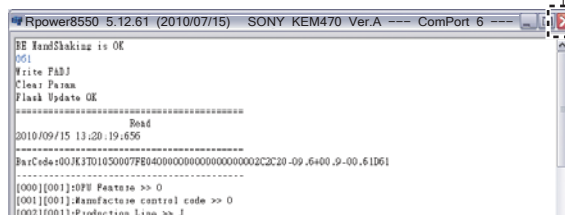

Fig. 11
- Click [X] to end Rpower.exe. (Fig. 11)